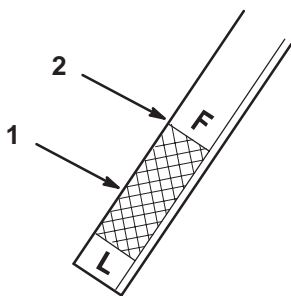

Figure 45
6. Slide the dipstick fully into the filler tube (Fig. 5). Pull the dipstick out and look at the metal end. When the transaxle is cold, oil should be in the operating range, below the FULL line on the dipstick (Fig. 45).